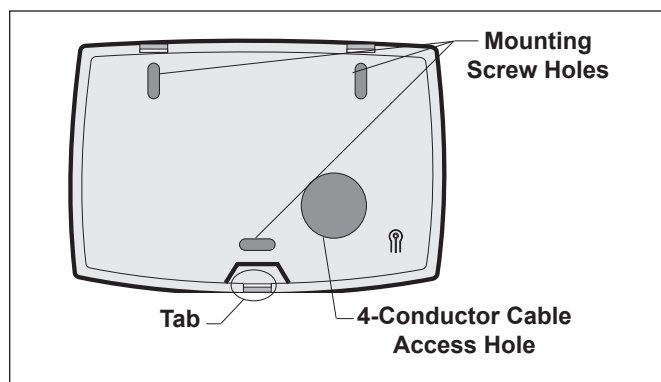

Figure 23. All Button Control Panel - Back View
2. Open the indoor control panel assembly by pressing in on the tab located on the lower end of the back of the control panel (see Figure 23). Place the back of the control panel against the wall. Level the back of the control panel and mark the three (3) mounting screw holes and the cable access hole.